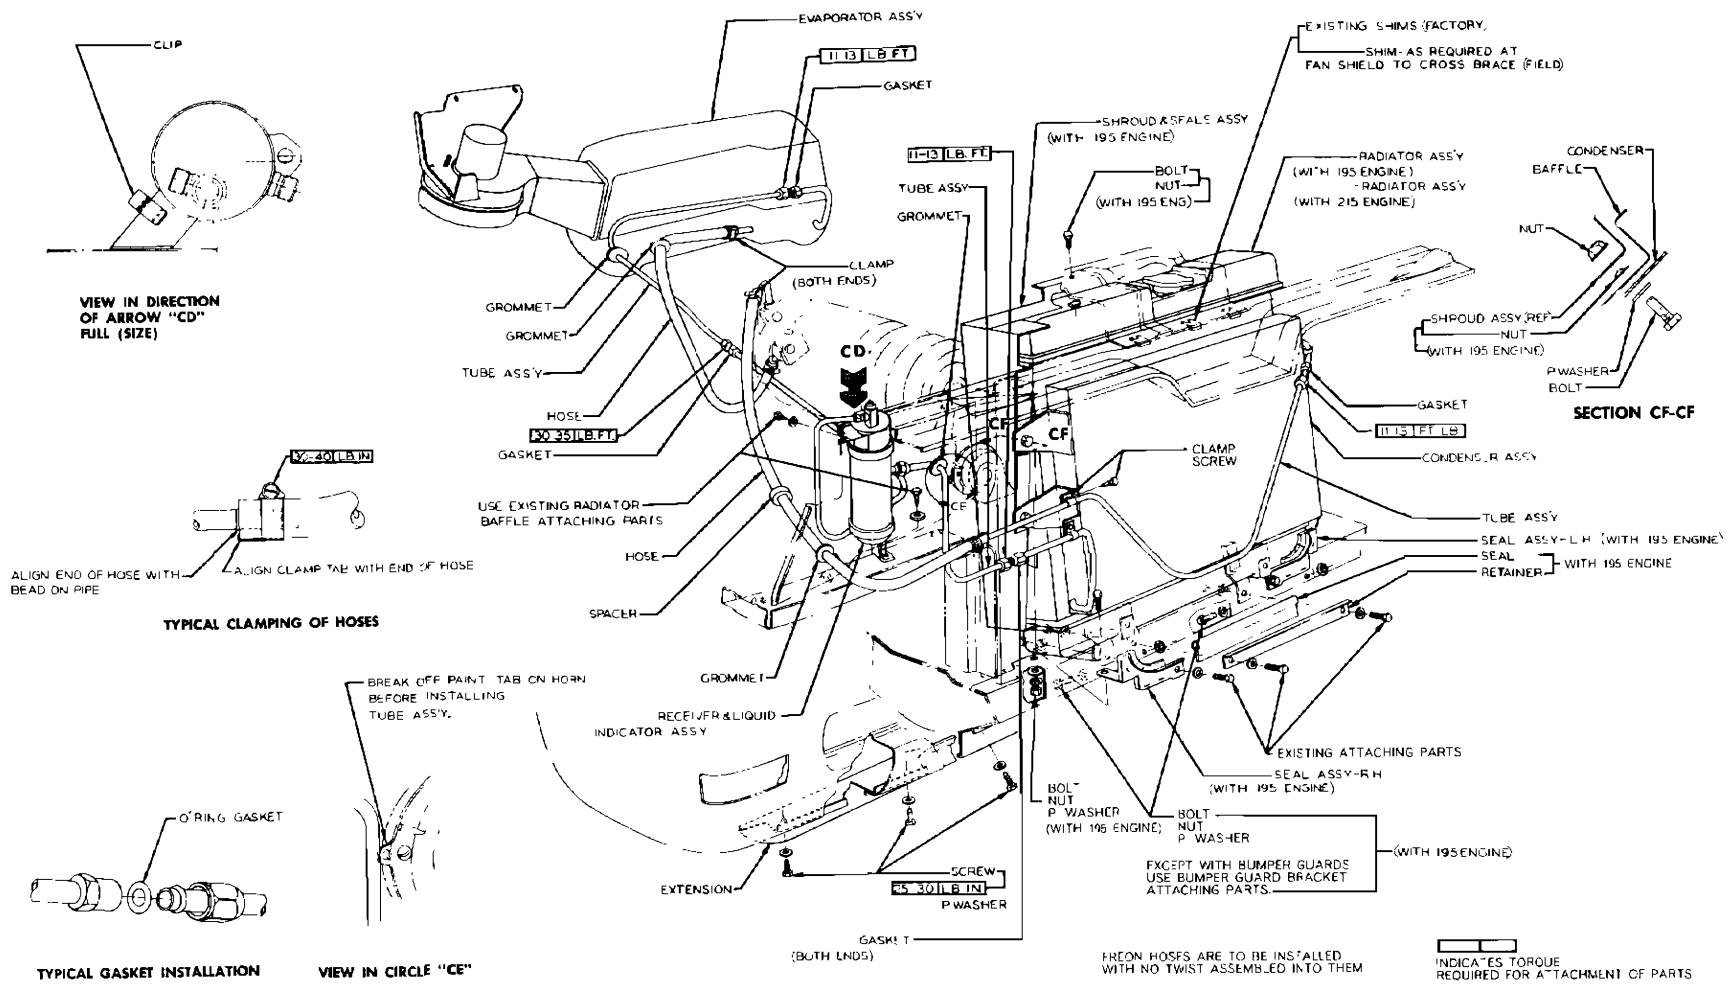

Fig. 7-55 Reference Illustration—Tempest Cool Pack Refrigeration System
10. Remove condenser attaching bolts and remove condenser (Fig. 7-55).